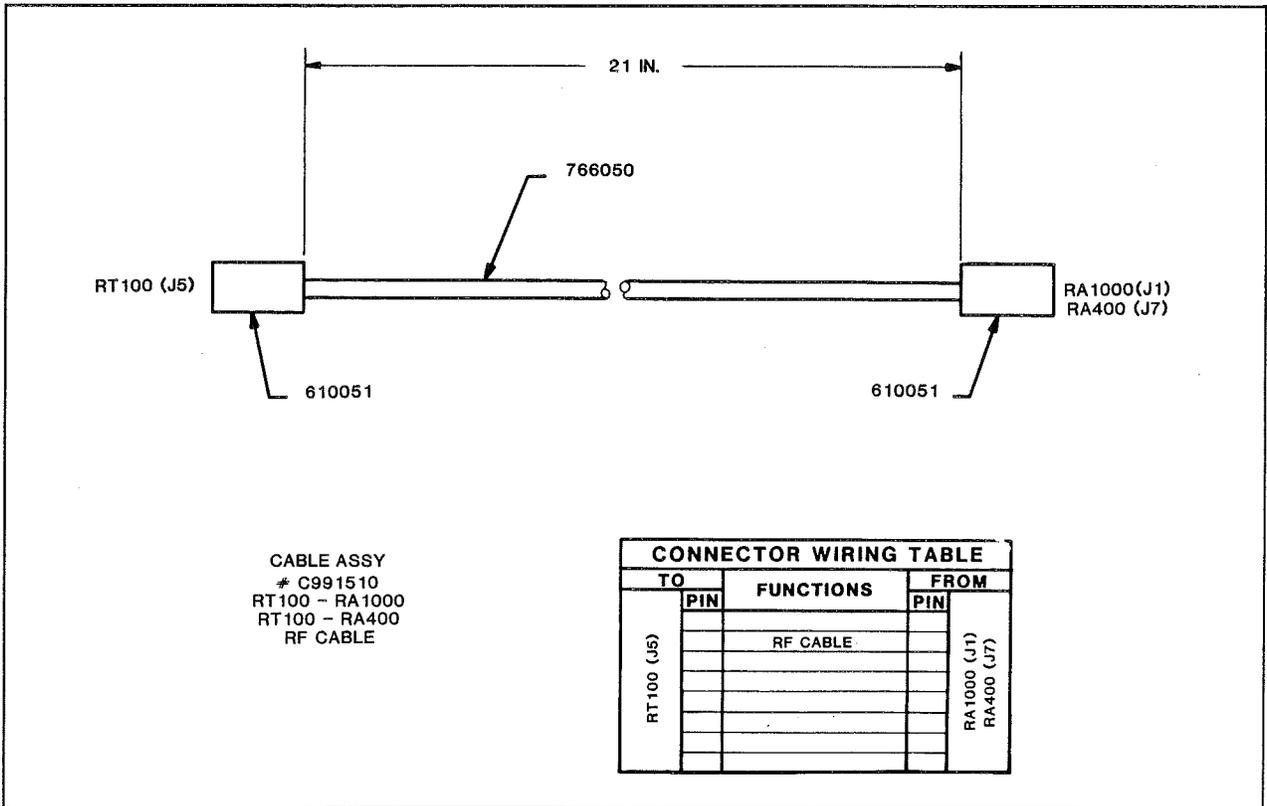

FIGURE 3-18. RF Cable (C991510).
4. C991510 -- See Figure 3-18.